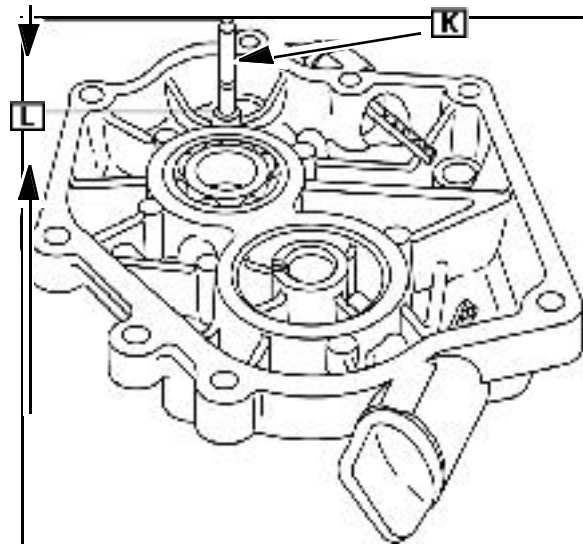

Fig. 18
2. Press either end of the new governor gear shaft (K) into the inside of cylinder cover from the inside until shaft is **1.220 - 1.222 in. (30.99 - 31.04 mm)** high (L) from boss, Fig. 18.